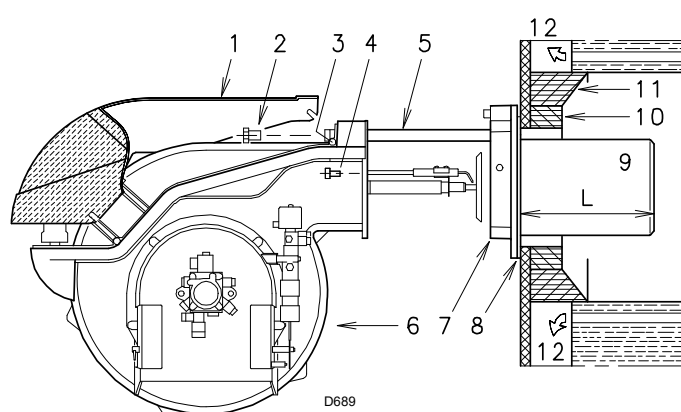

Fig. 7
5.4 Blast tube length (Fig. 7)
For boilers having a water-cooled front the refractory fettling 10)-11)(Fig. 7) is not required unless it is expressly requested by the boiler manufacturer.
Once this operation has been carried out (if it was required), secure flange 7) (Fig. 7) to the boiler plate interposing the supplied gasket 8). Use the 4 screws provided after having protected the thread with anti-seize products (high-temperature grease, compounds, graphite).
- Retract the burner on its slide bars as shown in (Fig. 7 pag. 11).